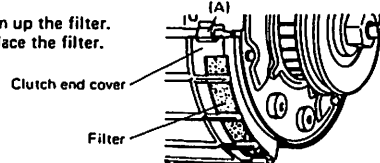

fig. 20
- Remove the filter by pulling the part (A) shown in fig. 20.